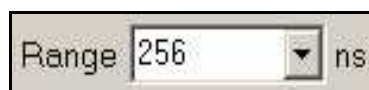

Fig. 4-4 – Range field
2. The range can be changed with respect to the preset value by typing the new value in the **Range** field (Fig. 4-4).